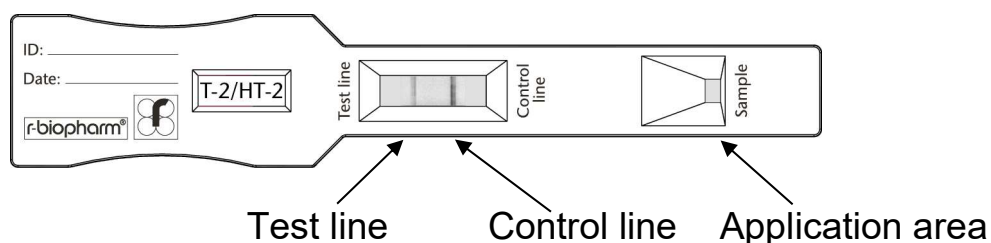

Fig. 1: RIDA®QUICK T-2 / HT-2 RQS ECO test strip.
- Apply 100 μl of the sample solution (see section 8. Sample preparation) on the application area of the test strip (see Fig. 1).
The left line in the reaction area is the test band (test line, see fig. 1). Its appearance and intensity depends on the T-2 / HT-2 toxin concentration of the